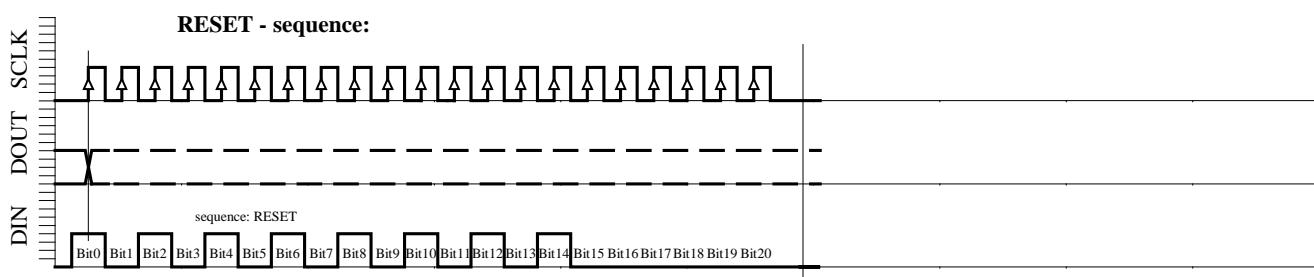

Fig. 6e: RESET sequence (21 bit)
- Calibration data read-out sequence for Word3 (Figure 6e)
The RESET sequence is special as the module in any state recognizes its unique pattern. By consequence, it can be used to restart if synchronization between the microcontroller and the MS5535-30C has been lost. This sequence is 21-bit long. The DOUT signal might change during that sequence (see Fig. 6e). It is recommended to send the RESET sequence before each CONVERSION sequence to avoid hanging up the protocol permanently in case of electrical interference.